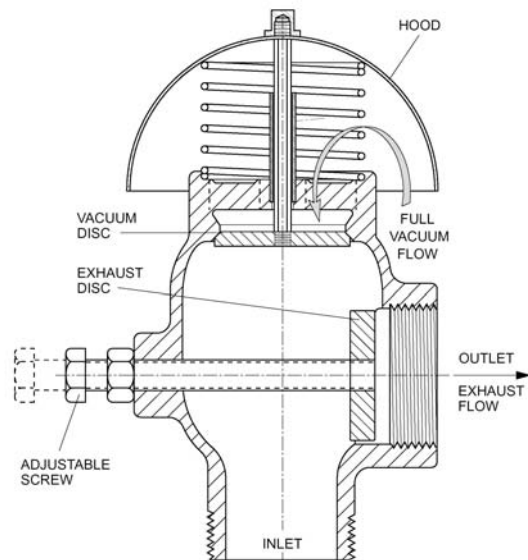

Figure 3. Dual-Port Throttling Device
•Air is not exhausted: Inspect float for free travel, damage or water leakage. Check that exhaust piping is not clogged or isolation valve inadvertently closed. Open throttling device Figure 3. Valve may be too small for application. Identify pump flow rate and call factory to check sizing.